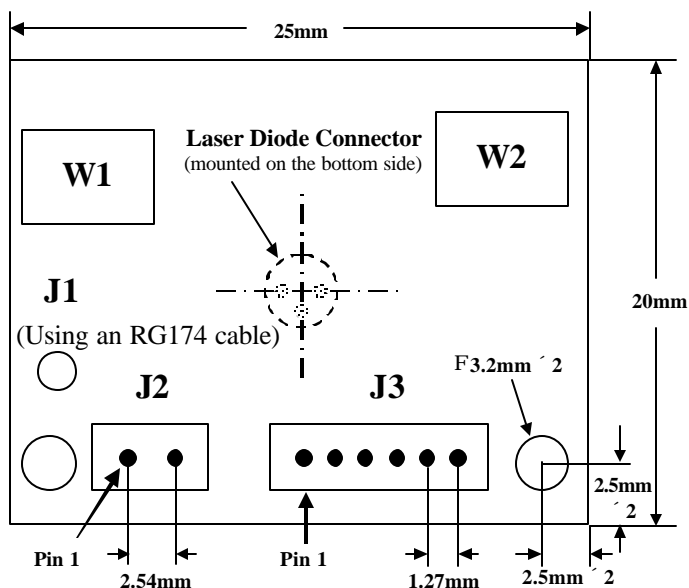
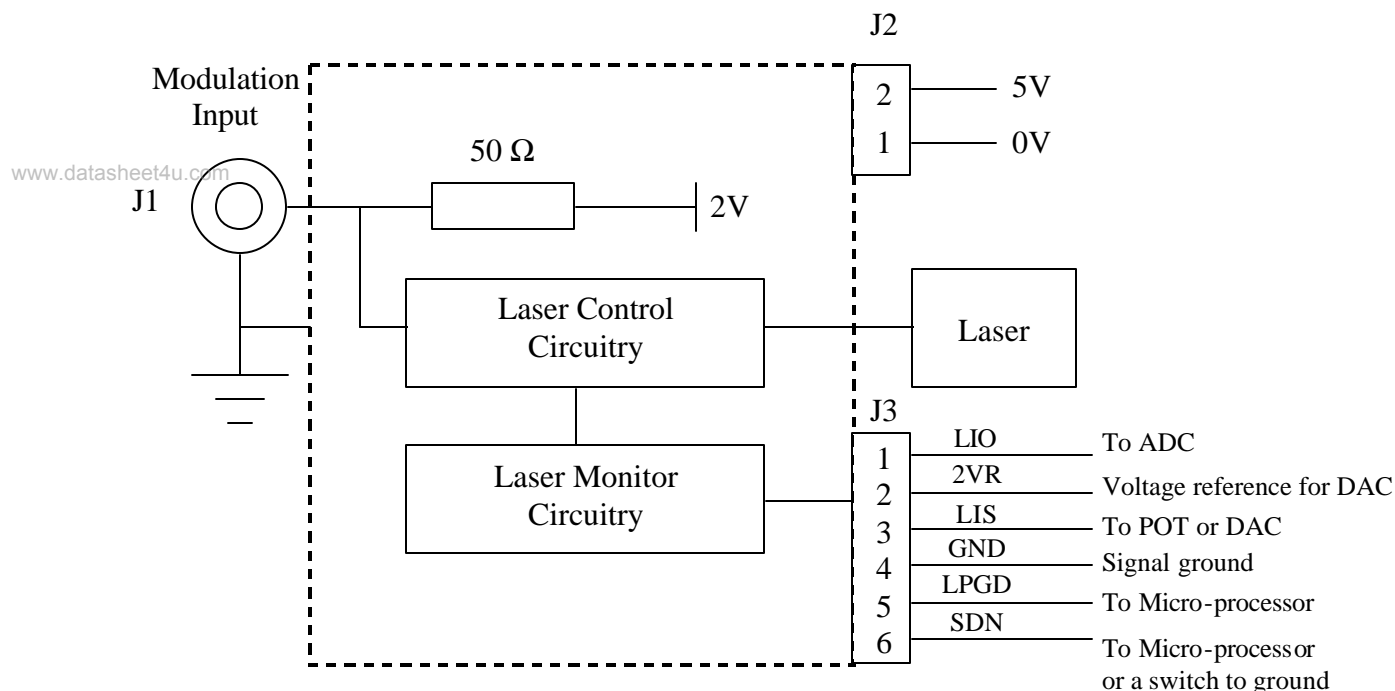

Figure 1 Top View of ATLD201V1
Figure 3. Internal Circuits and External Connections for ATLD201V1
Pin Descriptions (See Figure 1 and 2 for laser controller ATLD201V1 views)
- 1. Power up.** The laser controller ATLD201V1 circuit board is shown in Figure 1 and 2. Connect the ATLD201V1 according to Figure 3. Do not insert the laser diode yet.
5. **Set up and Connect the Modulation Signal Source.** The modulation signal has to be between 0V to 2V and the output DC and AC impedance has to be 50Ω. Set up the modulation signal to the proper value first and then connect to J1 of ATLD201V1. When the input signal is 0V, it will generate a 1V voltage at the input pin (J1) and the output optical power is 0; when the input signal is at 2V, it will generate a 2V voltage at the input pin and the output optical power is at its maximum value. Leaving J1 unconnected will result in the input pin voltage to be at 2V and the output optical power to be at its maximum value. See Figure 3 for the internal connection of J1.